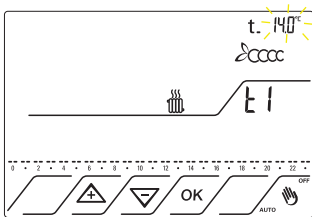

Fig.28
7.4 Press OK to confirm. The display shows the first level value T1 14° C. Fig.28